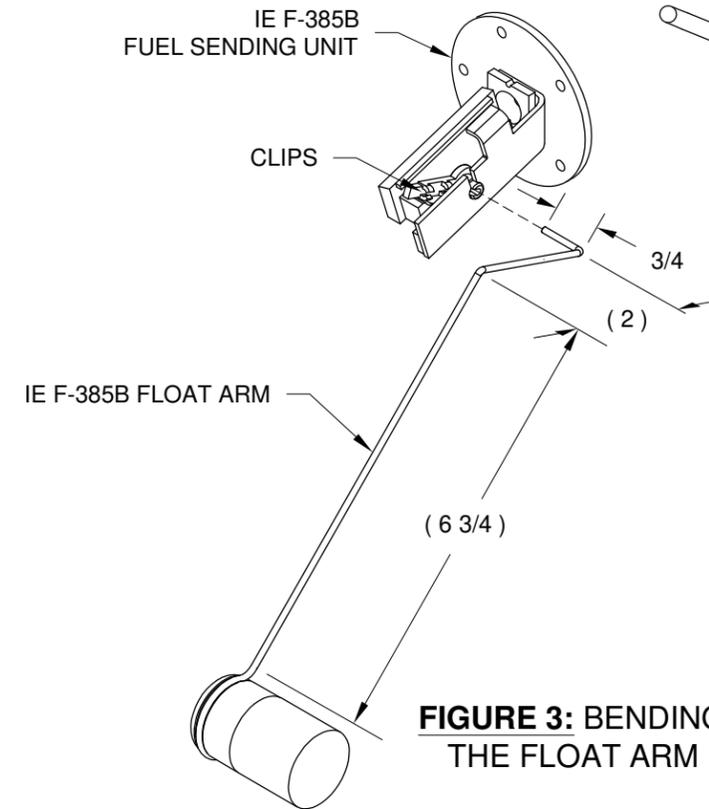

FIGURE 3: BENDING THE FLOAT ARM
Step 6: Use a vise to bend the IE F-385B Float Arm per the dimensions given in Figure 3 and the full scale template in Figure 4 (Check printed scale 1:1 per Section 3 before using the template). Trim off the extra length, then insert the float arm into the IE F-385B Fuel Sending Unit. See Figure 3. Snap the float arm into the clips on the fuel sending unit.